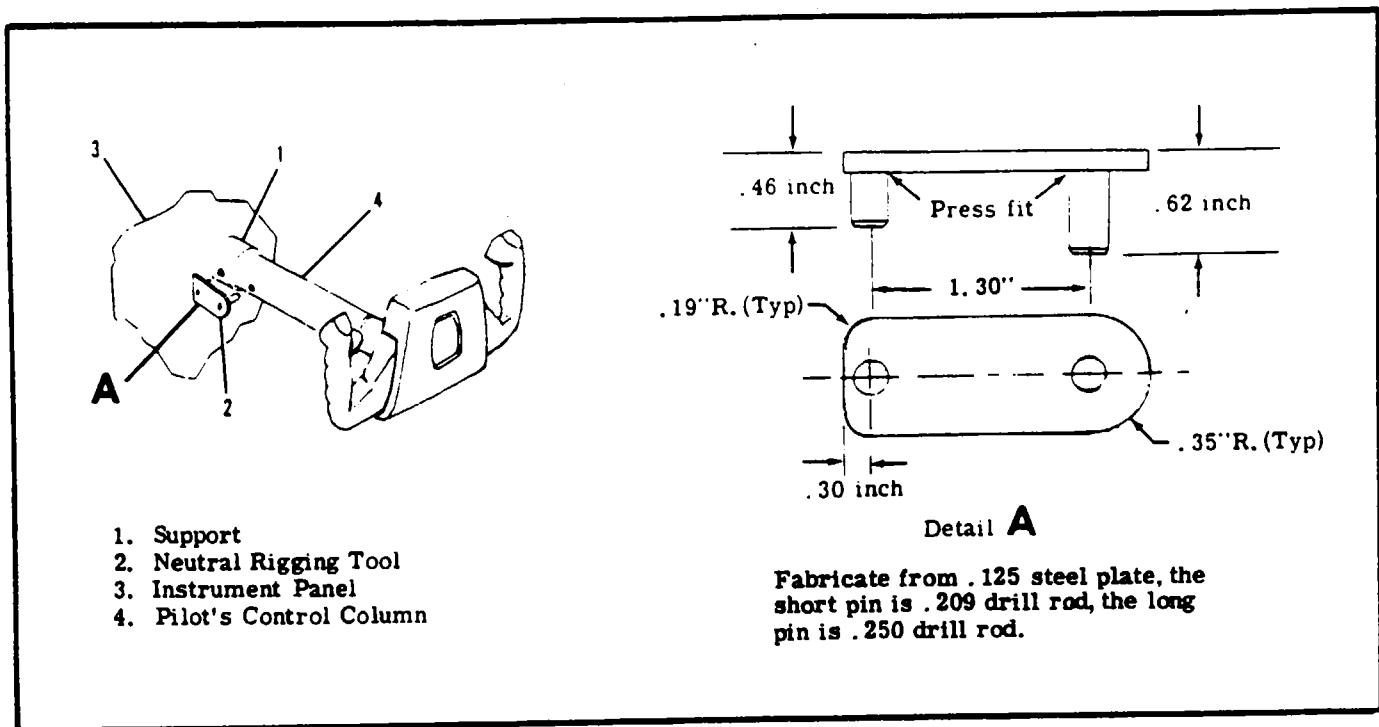

Figure 8-5. Control Column Neutral Position Rigging Tool
- a. Lock control column in neutral position. (Refer to figure 8-5.)